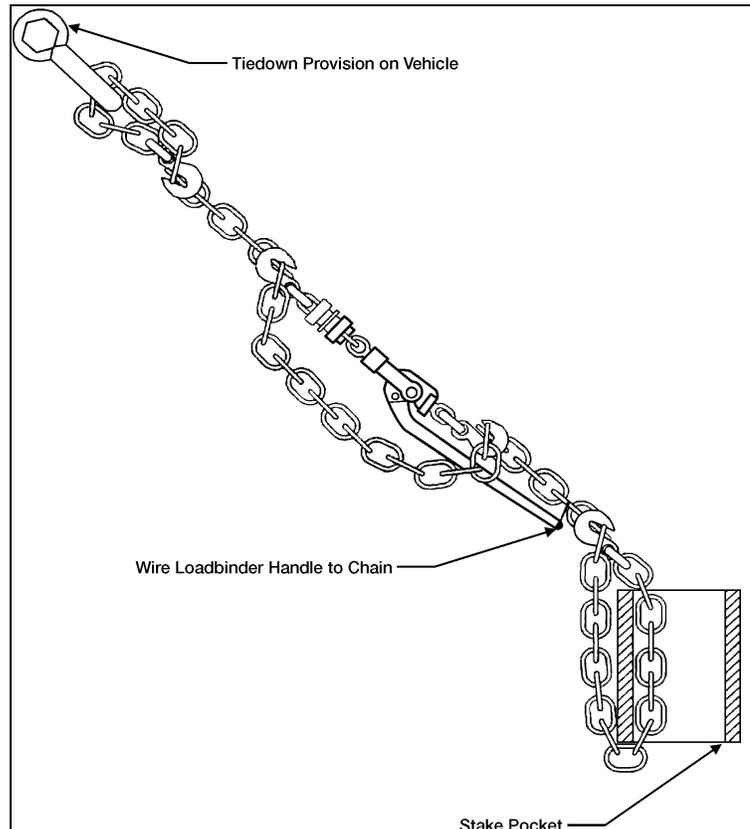

Figure 3-53. Chain and Load Binder
- a. Chains and load binders (used for Vehicle Payload) (see Figure 3-53). Inspect chains including the hooks, at least once a month; inspect those that are used for heavy and continuous loading more frequently. Give particular attention to the small radius fillets at the neck of the hooks for any deviation from the original inner arc. Examine each link and hook for small dents and cracks, sharp nicks and cuts, worn surfaces and distortions. Replace any of those that show any of these weaknesses. If several links are stretched or distorted, do not use the chain; it probably was overloaded or hooked improperly, which weakened the entire chain; inspect load binders for structural cracks in the metal; inspect chain and hooks using same criteria sited above; if ratchet type, ensure mechanism works freely without binding; inspect lever pivot mechanism for excessive signs of wear or stress on pin. Do not use if any portion of the load binders possesses any of the above signs of wear or misuse.